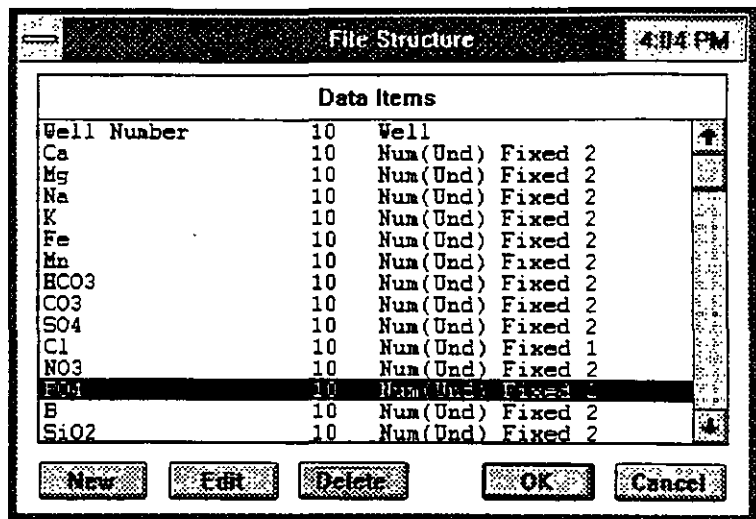

Figure 2-12
6. Move the cursor down to NO₂ and click on the **Delete** button. The screen display is as shown in Figure 2-12.
10. With the data fields listed, as shown in Figure 2-12, click on **New** button and type Zinc for field name. The dialogue box is as shown in Figure 2-15. Click on